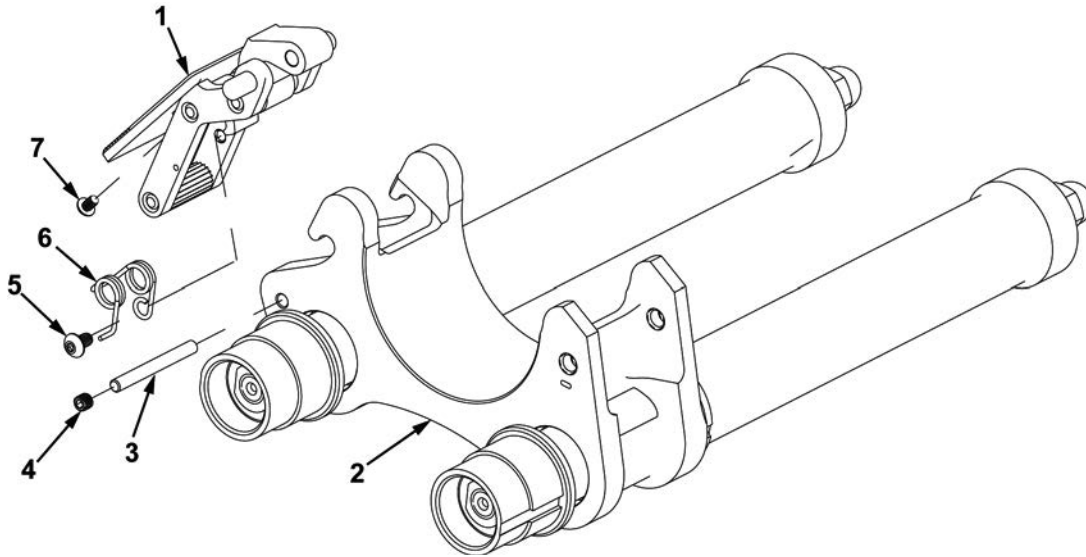

Figure 3. Disassembly of Clamping Catch.
6. If torsion helical spring (Figure 3, Item 6) is worn or damaged, remove socket head capscrew (Figure 3, Item 5), socket head capscrew (Figure 3, Item 7), and torsion helical spring from clamping catch (Figure 3, Item 1). Discard torsion helical spring.
7. If damaged, remove setscrew (Figure 3, Item 4) and buffer latch pin (Figure 3, Item 3) from lower clamp (Figure 3, Item 2).